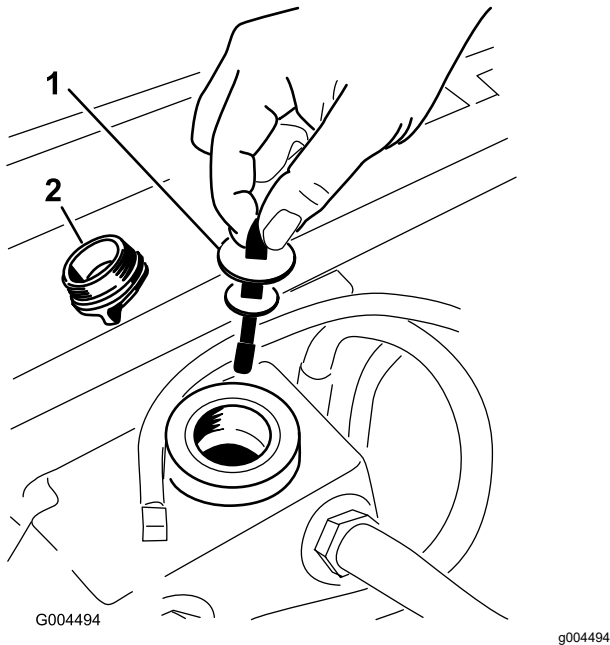

Figure 63
5. Remove the hydraulic fill cap from the filler neck (Figure 63).
6. Remove the dipstick and wipe it with a clean rag (Figure 63).
7. Place the dipstick into the filler neck; then remove it and check the level of fluid (Figure 63).